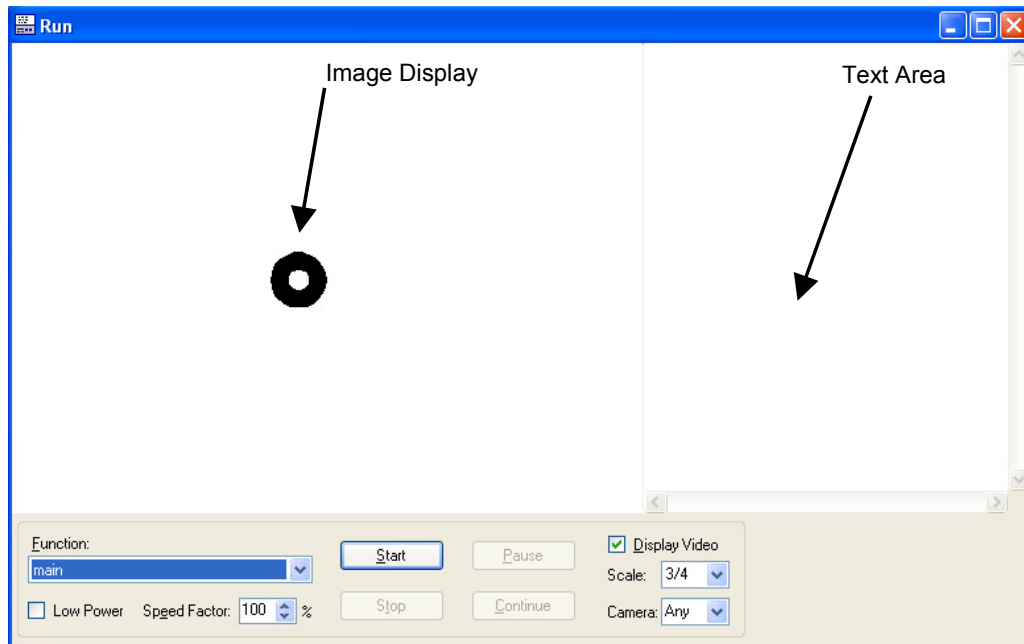

Figure 9: Run window with Image Display and Text Area
- (1) Click on the Run toolbar button  on the EPSON RC+ toolbar. This will cause the EPSON RC+ Run Screen to appear. Notice that in Figure 9, the Run window is split into 2 parts. The left half of the Run window is the image display (note the washer shown in the center) and the right half of the Run window is the text area which is used for displaying text messages.